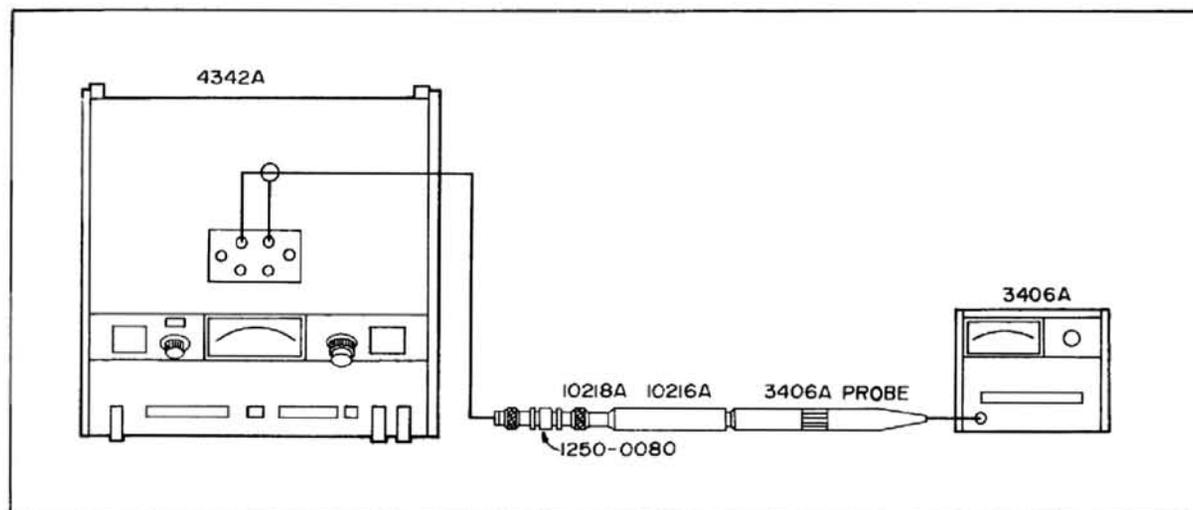

Figure 5-6. Oscillator Level Adjustment
- a. Connect the AC Voltmeter and the Digital Voltmeter to LO and GND terminals as shown in Figure 5-6 and turn the 4342A on.